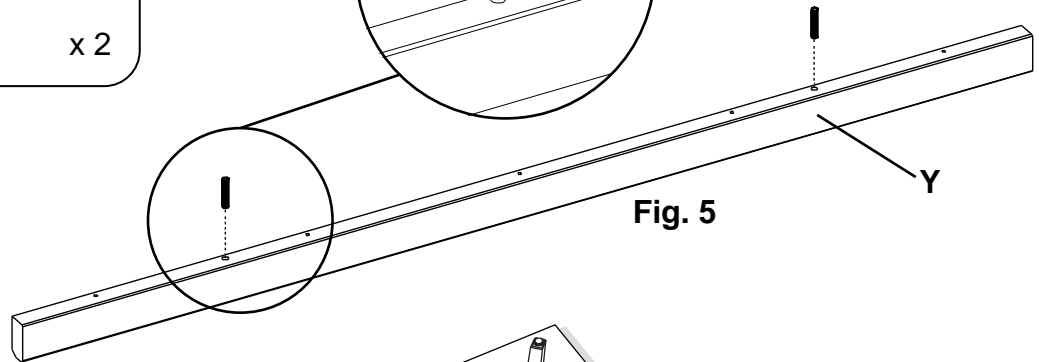

Fig. 5
5. Place two Wooden Dowels (P) into the Filler Strip (Y). Gently hammer in the dowels so that they are entirely seated in the wood. Insert the dowels of the Filler Strip assembly (Y) into the dowel holes of the Headboard Platform Assembly (Ka). See Figures 5, 5a and 5b.